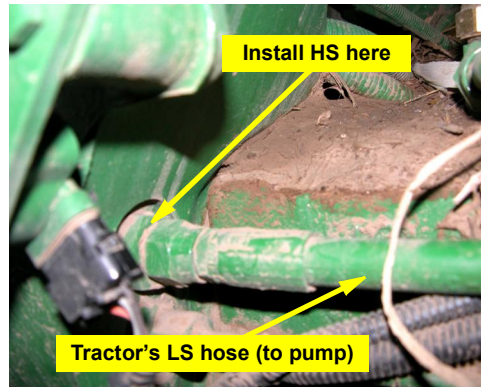

Figure 8b: Load sense shuttle location
Locate the load sense test port (that you repositioned at step 2) under the hydraulic block mounting. Trace that fitting forward through the back casting of the tractor. You will install the load sense shuttle at the junction of the fitting coming through the casting and the hydraulic load sense hose that continues on to the tractor hydraulic pump (Figure 8b).
- b. Disconnect the tractor's load sense hose and install adapter fitting **HS** at the casting fitting (Figure 8b).